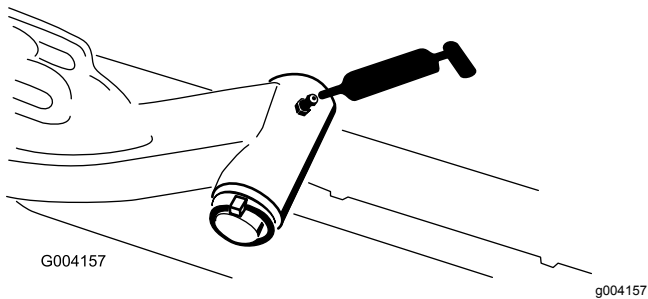

**Figure 47**
- Cutting unit carrier frame pivot (1 each) (Figure 47)